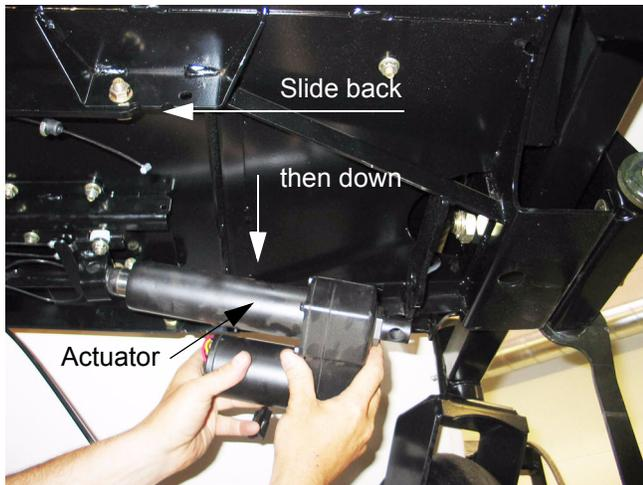

Figure 12.9
12.9. Carefully slide the actuator toward the back of the mower to release it from the front bracket, and lower it to remove it. See Figure 12.9.